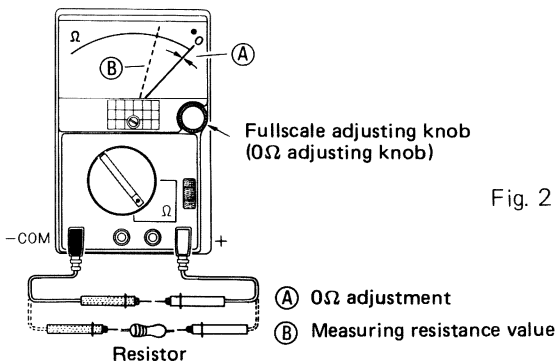

Fig. 2
as is shown in Fig. 2 (A), turn the 0Ω adjusting knob (0Ω ADJ), and align the indicator pointer with the 0Ω line, the rightmost Ω scale. Do measurement after finishing this adjustment. If this adjustment is down whenever ranges are switched, more correct indicated values can be obtained.